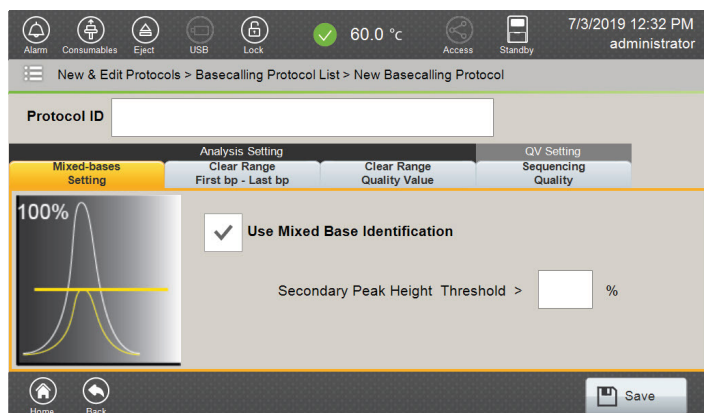

Figure 121. ‘New Basecalling Protocol’ screen.
2. Select **Create** in the footer to open the 'New Basecalling Protocol' screen (Figure 121). There are four tabs on the 'New Basecalling Protocol' screen.
Mixed Bases Setting	<p>Checking the "Use Mixed Base Identification" box enables this function (Figure 121). If there are two peaks at the same position and the smaller intensity peak is greater than the Secondary Peak Height Threshold (height as a percentage of the major peak at the same position) set in the basecalling protocol, then the software will identify this peak as a mixed base.</p> <p>Minimum and maximum values allowed for the Secondary Peak Height Threshold are 1% and 99%, respectively.</p>
- Enter a Protocol ID, and then check the “Use Mixed Base Identification” box on the ‘Mixed-Bases Setting’ tab, if desired, followed by the Secondary Peak Height Threshold value (Figure 121).